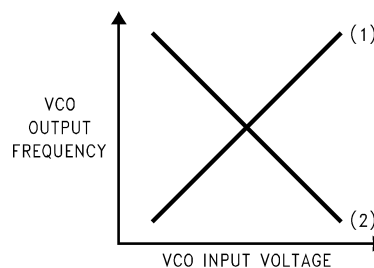

Figure 23. VCO Characteristics
(1) PHASE DETECTOR POLARITY, Depending upon VCO characteristics, R16 bit should be set accordingly: (see Figure 23) When VCO characteristics are positive like (1), R16 should be set HIGH; When VCO characteristics are negative like (2), R16 should be se LOW.
(2) Refer to POWERDOWN OPERATION.
(3) The I_{CPo} LOW current state = 1/4 × I_{CPo} HIGH current.